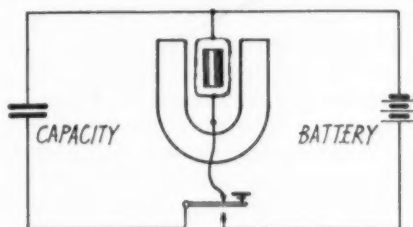

Fig. 2. Measuring Capacitance with Galvanometer
**C**ONNECT a galvanometer, a key, a battery and a condenser of known value as shown in Fig. 2. The key shall be one having a normally